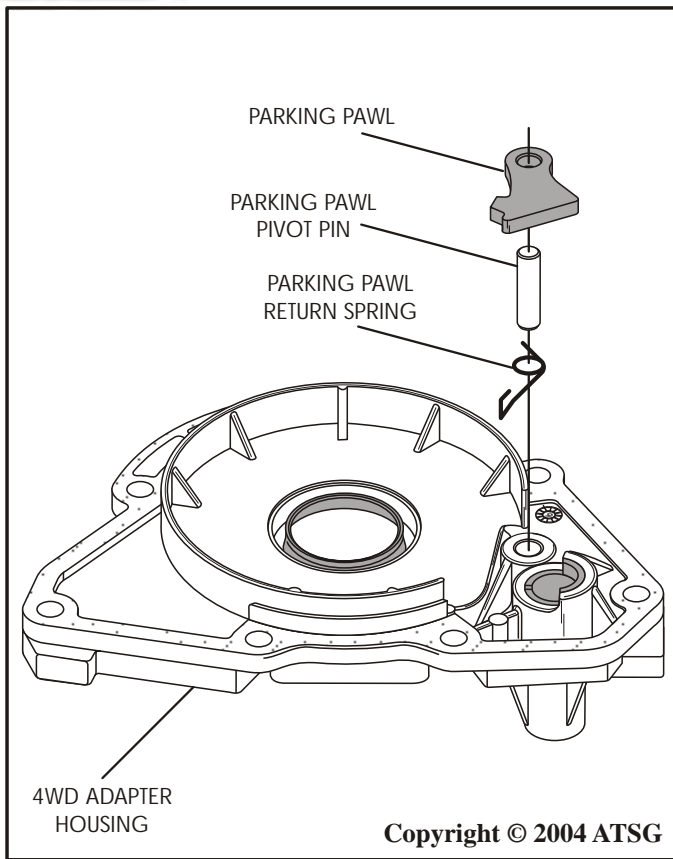

Figure 125
5. Turn the 2WD extension housing or the 4WD adapter housing over to install the park pawl components, as shown in Figure 125, as the procedure is the same for either model.